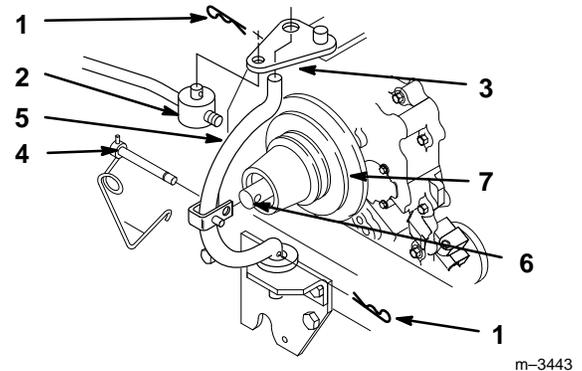

Figure 28
4. Unlatch and remove locking clevis pin that secures yoke assembly to clutch shaft. Pivot yoke out and forward to remove from clutch shaft and engagement plate (Fig. 28).
5. Replace belt in inside pulley groove (Fig. 28).
6. Assemble yoke and engagement plate and attach locking clevis pin, trunnion and hairpin cotters to secure (Fig. 28).